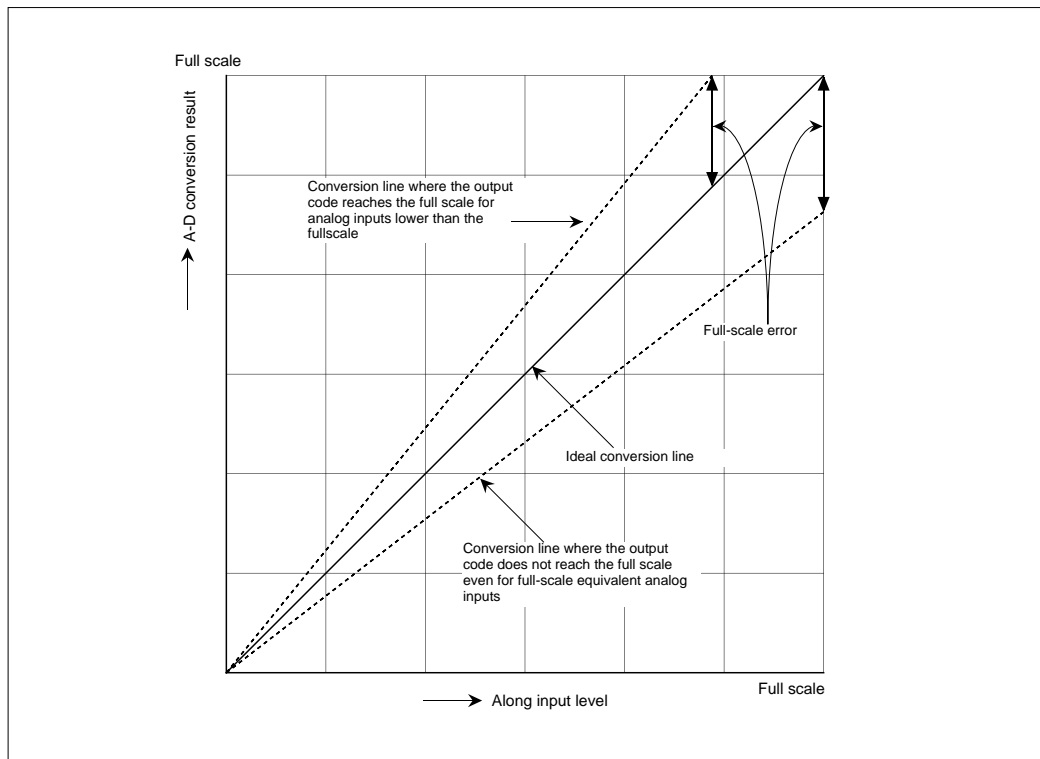

Figure 11.3.7 A-D Converter's Full-scale Error
- (4) Full-scale error Refers to an amount of dislocation by which the analog input voltage at which the digital output code reached the full-scale value is dislocated from the nominal value. (Figure 11.3.7)